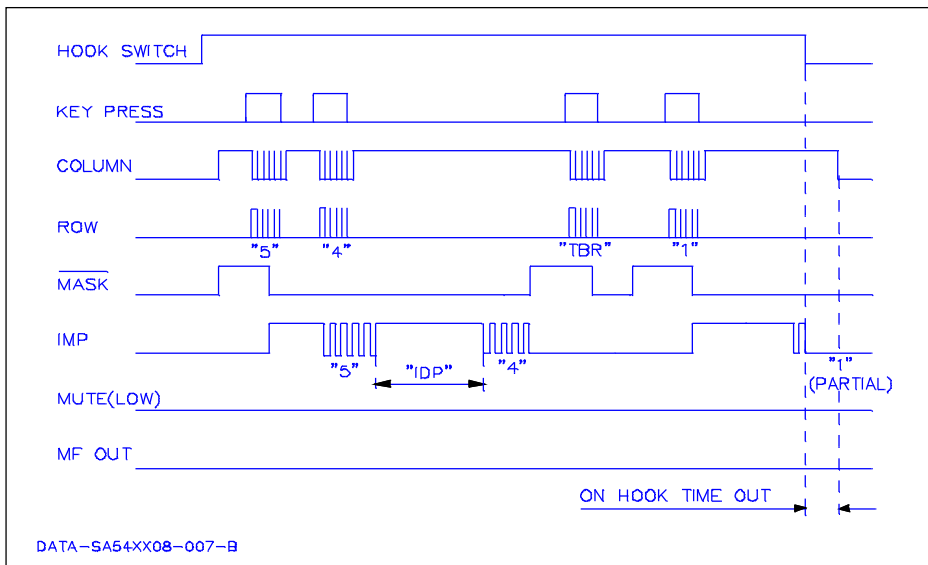

Figure 5: LD Mode Timing Diagram
Off-hook state: When the HSW input goes high, the MASK output immediately goes to the logic '1' level and remains there until dialling starts (see Figure 5). COLUMN outputs also go high until a key is pressed. The oscillator circuit remains inactive until a key is pressed, and is normally off whenever timing functions are not required, hence reducing operating current.
11. Loop Disconnect Dialling (Figures 5 and 6)